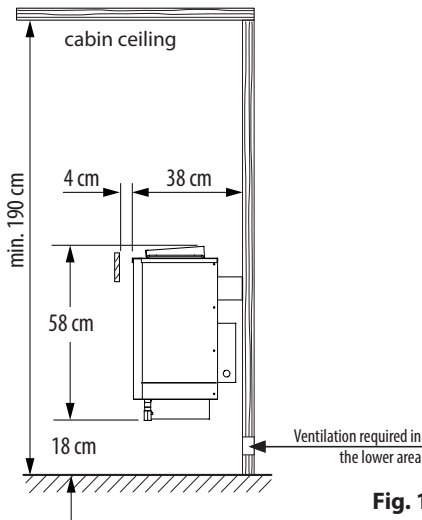

Fig. 1
- The minimum height of the sauna cubicle should be **1,90 m** on the inside (Fig. 1)